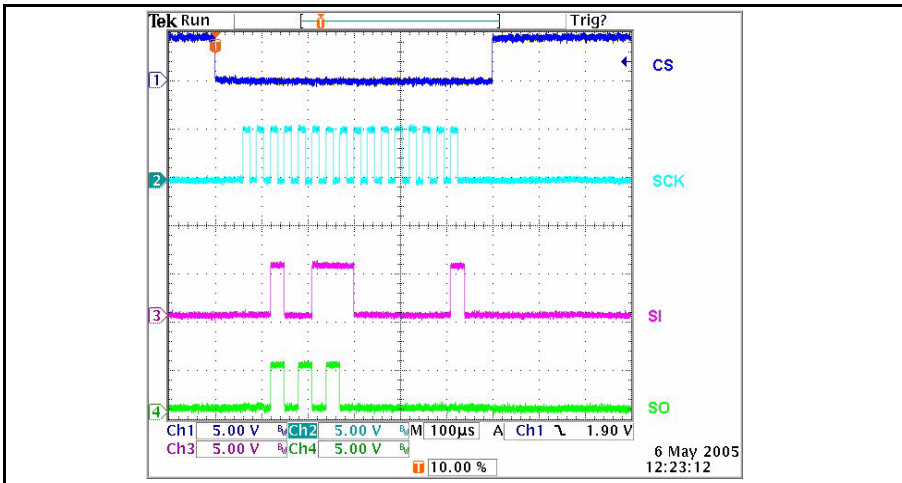

Figure 20 Set Channel 9 to Parallel Control Mode
Step 3 Configure channel 9 to parallel control mode with command WR_MUX2, setting the MUX8(bit0) to 1, shown in Figure 20.